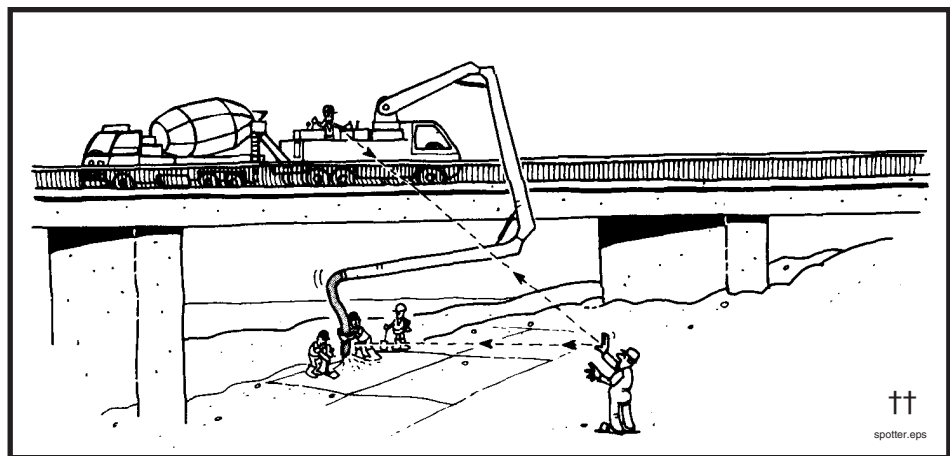

Figure 31
- 6.31 **⚠ WARNING** If you will be unable to see the point of placement, establish a system of communications with the workmen who will be there. Arrange for radio communications, a system of visual or auditory signals (lights or bells), or a spotter. If a spotter is used, **agree on hand signals before beginning the pour!** If the boom will be moved extensively, arrange for a workman to stay with the pump and to put yourself in a position to see the end of the boom (Figure 31).